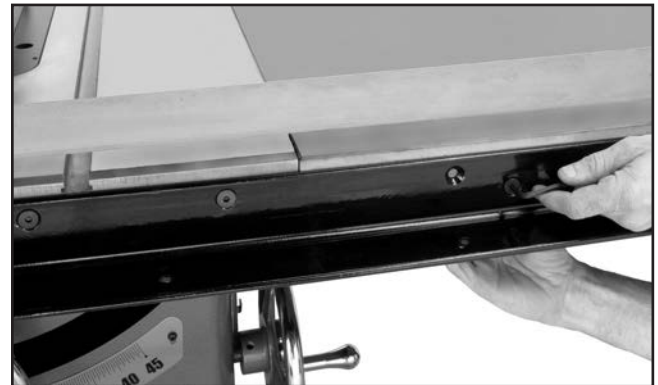

Figure 31. Aligning main extension table.
5. Align the main table and extension table with a straightedge, as shown in **Figure 31**, then tighten all of the mounting fasteners.